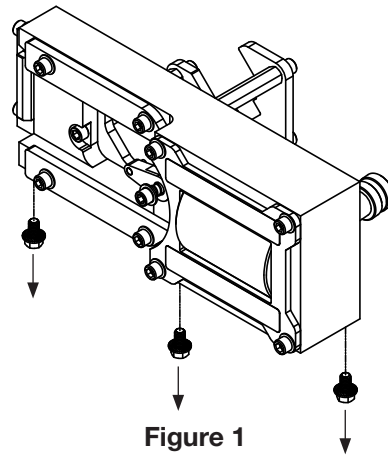

Figure 1
1. Remove the 3 hex screws from the bottom of the cassette (Fig. 1).